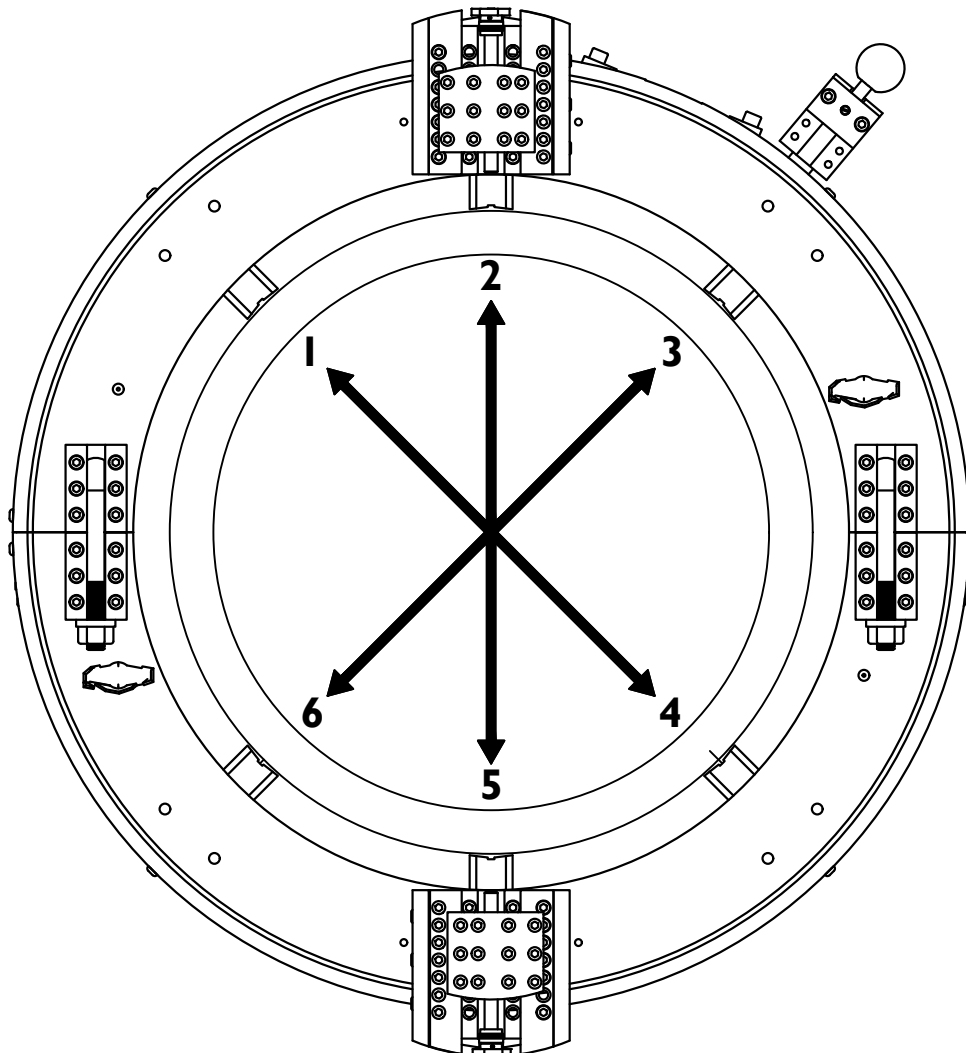

Figure 5 - Square and Center the Clamshell
5. Square the clamshell to the workpiece. Place a square against the back face of the clamshell and along the length of the workpiece. Adjust locators 1, 4 and 3, 6 until the clamshell is square to the workpiece. Always make adjustments in a cross-pattern sequence. See Figure 5.
6. Center the clamshell to the workpiece. Measure the distance from the workpiece outside diameter to the clamshell inside diameter at locator positions 1 and 4. Adjust the locator positions so that they are at the same dimension, while maintaining squareness and a secure fit on the workpiece. Repeat the process on locators 3 and 6. When the clamshell is centered and squared to the workpiece, tighten locators 2 and 5 against the workpiece. For fine centering mount a dial indicator on the clamshell face and indicate to the outside diameter of the workpiece. Make adjustments as required. Make sure all locators are firmly tightened against the workpiece. See Figure 5.